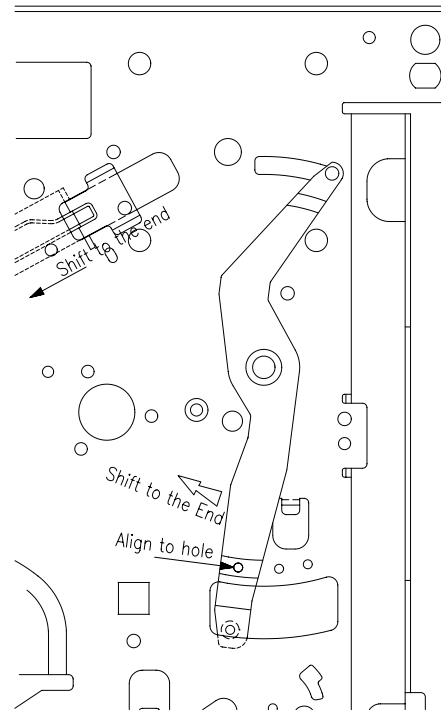
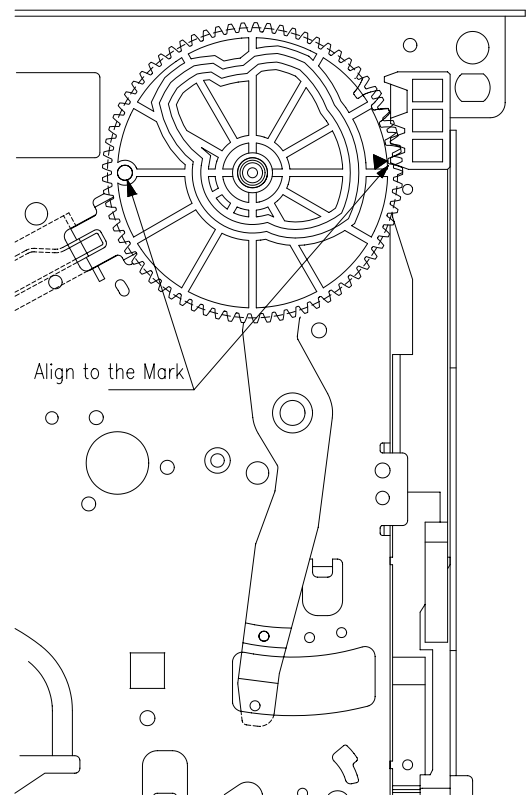

Fig. 3.10 Assembly of the CAM GEAR, RELAY LEVER
Fig. 3.11 Assembly of the CAM GEAR, FL RACK
- When reassembling, refer to Fig. 3.10, Fig. 3.11 and chapter 4.